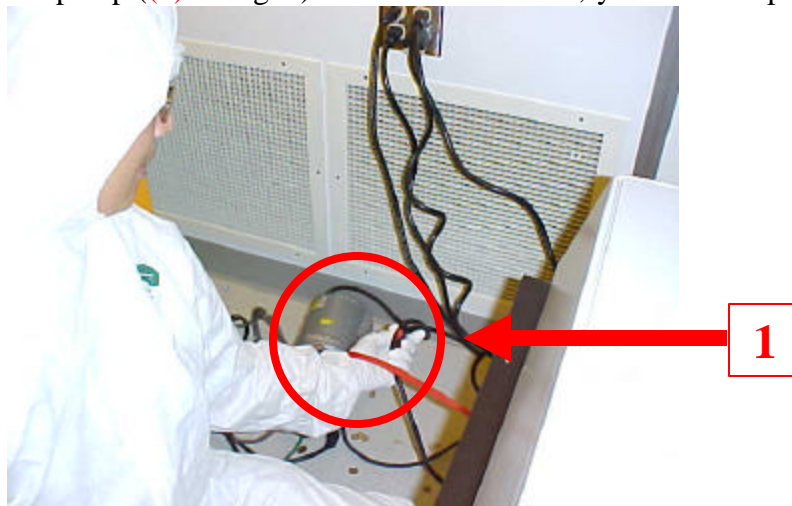

Figure 2. Vacuum Pump Power Switch (Red color)
1. Turn on the vacuum pump ((1) in Fig. 2). Once it is turned on, you can hear pump noise.
23. Turn the “Vacuum pump” off ((1) in Fig. 2). **Now, IT’S ALL DONE !!!!!**